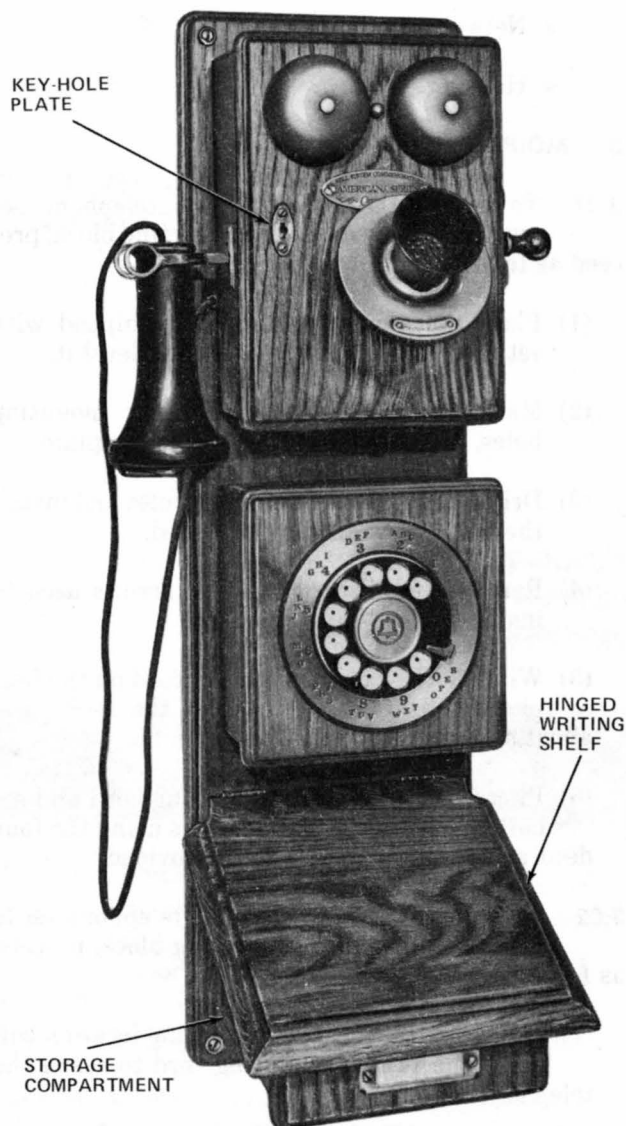

Fig. 1—♦CS952A1-03 DESIGN LINE Telephone Set♦
1.01 This section contains information on the CS952A1-03 (Fig. 1) DESIGN LINE* telephone set (Americana Edition Circa 1882 Telephone).